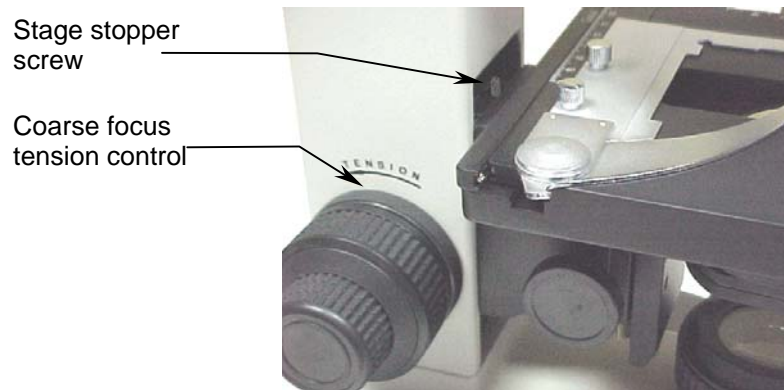

Fig. 8
The tension adjustment control (Fig. 8) is located between the coarse focus knob (16) and the arm (15). The coarse focus knob comes pre-adjusted by the manufacturer. The ideal tension point is that which permits coarse focus knob to move as loosely as possible, without the stage (8) moving down on its own.
- a. Loosen the stage stopper screw (Fig. 8) with a 2mm hexagonal key.
- b. Focus on the sample using only the fine focus knob (5) with firstly the 4X objective, and 10X objective.